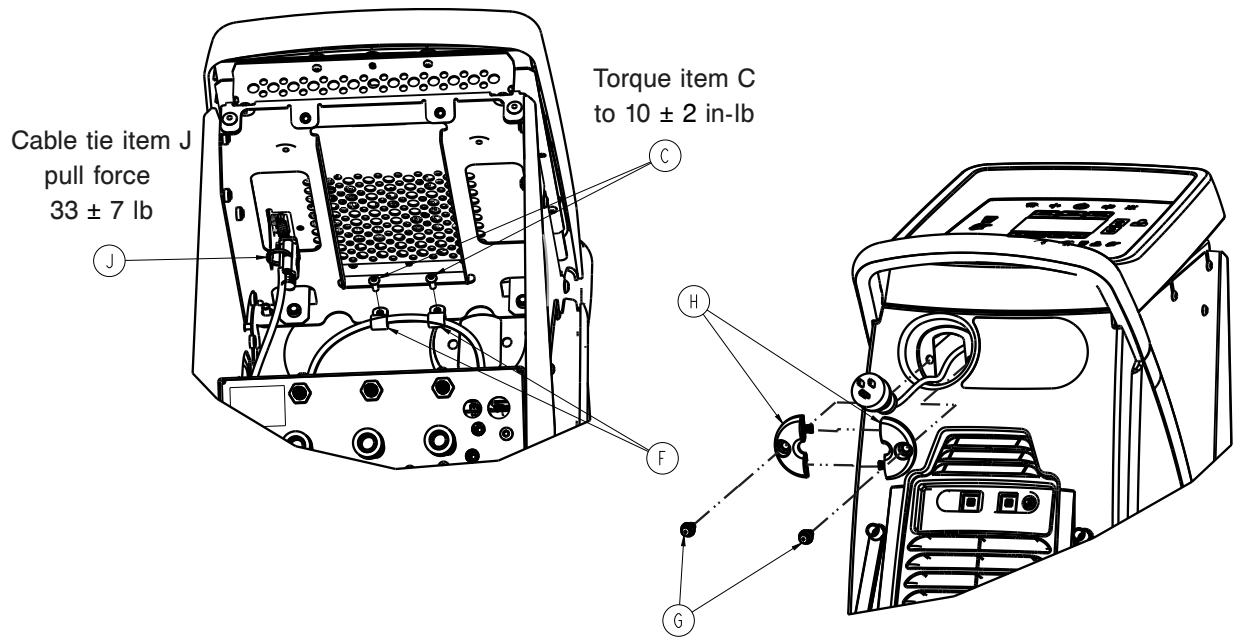

Figure 15 – Power cord to the top bracket
4. Using a T25 torx, remove and save the two screws (C) and cable clamps (F) that secure the power cord to the top bracket (Figure 15).